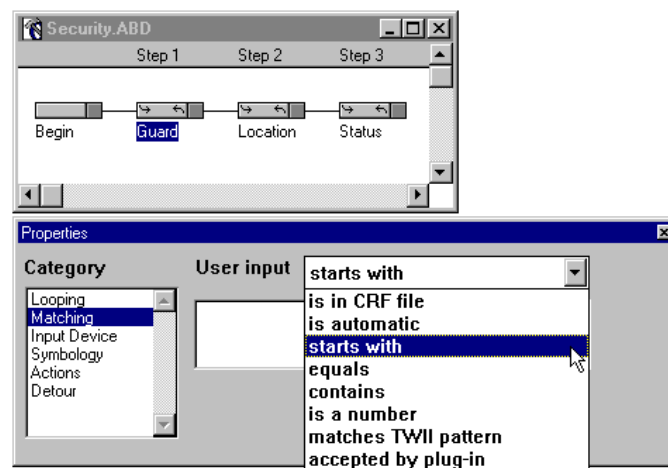

Figure 3-21 Matching Property - Starts With
19. Choose **starts with** from the **Matching** property pop-up menu (Figure 3-21). For the “Guard” Handler, we will use bar codes that start with the letter G. So, we will use **starts with G** for our match criterion.